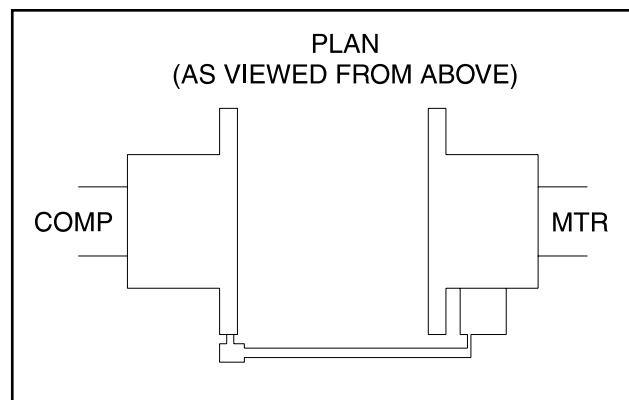

Figure 6 - Dial Indicator at 3 o'clock
10. Check parallel lateral misalignment by positioning dial indicator so the stem is in contact with the rim of the compressor hub at 3 o'clock, as shown in Figure 6.